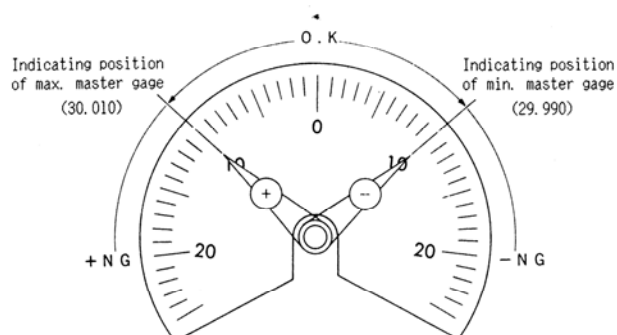

Fig. 3 Limit indicators
- 11) After completion of adjustment, set the limit indicators to the indicating position of the max. master gage and min. master gage, respectively. (Fig. 3)